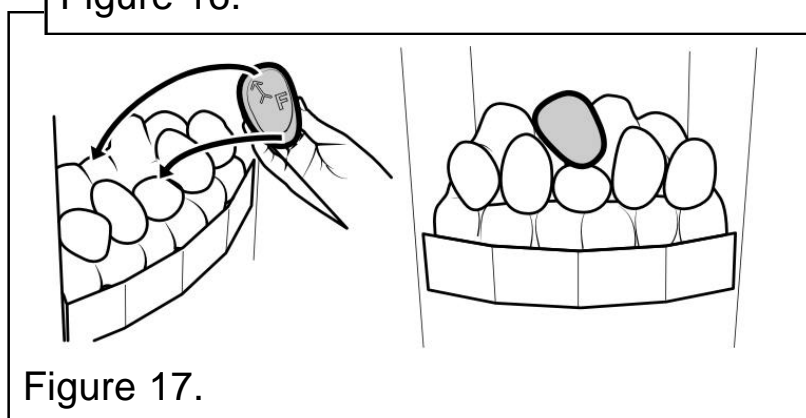

Figure 17.
8. Hold pebble 'F' upright with the arrow pointing to the top. Place pebble 'F' on top of pebble 'C'. It should rest against the rear of the pebble base (See figure 17).